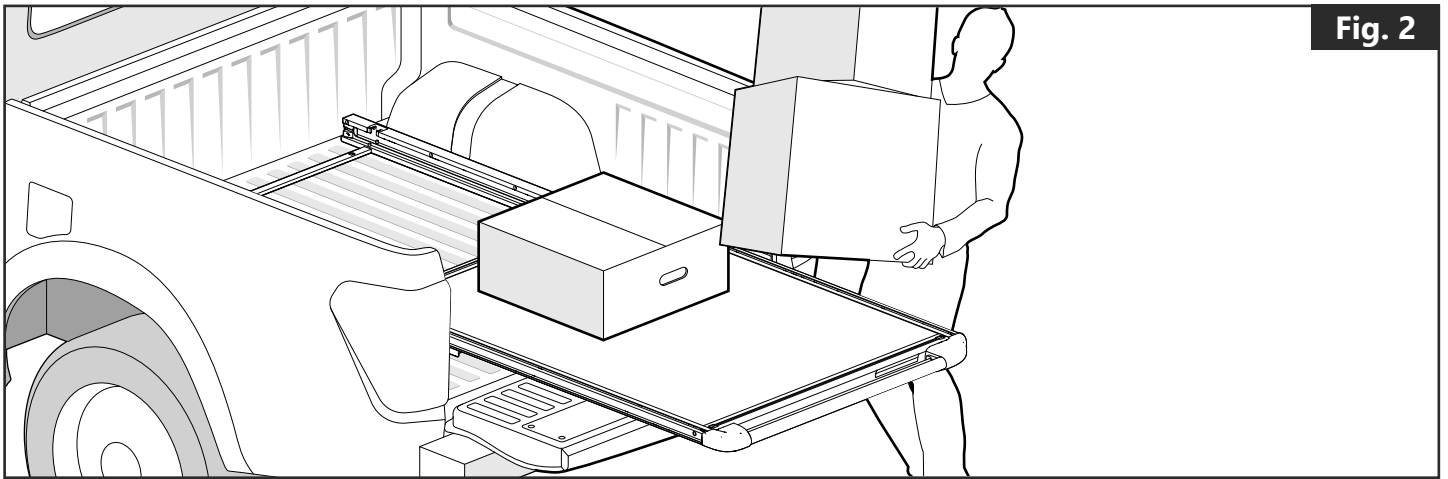

Fig. 2
- The purpose of the Mountain Top Slide™ is to facilitate easy access to cargo. **(Fig. 2)**